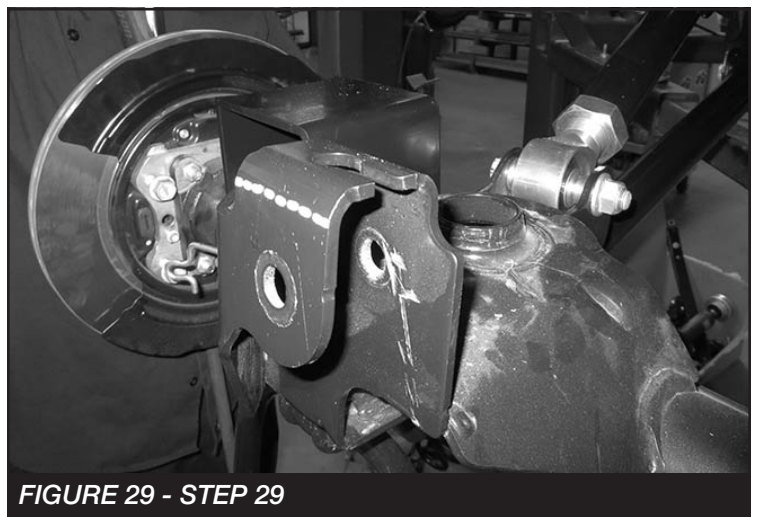

FIGURE 29 - STEP 29
34. Install the FT1004 (Half bushings) and FT404739 (Sleeves) into FT1599-2-4 (Rear sway bar links). Then, install the new links to the sway bar and sway bar mount on the frame using supplied M12 x 70mm bolt and large O.D. washer for the upper location and M12 x 70mm bolt regular washer, large O.D. washer and nut for the lower. Use the larger washer on the nut side. **NOTE: The new end link will need to be installed on the inside of the sway bar and axle mount.** Torque to 65 ft-lbs **SEE FIGURE 29**